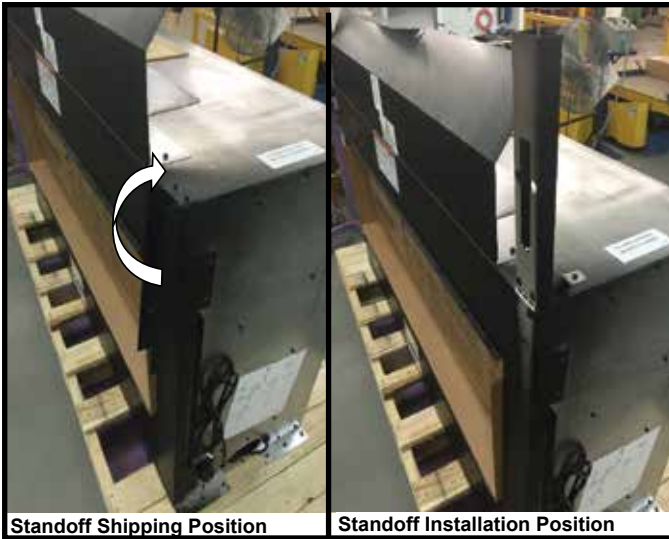

Figure 6.1 Standoffs Shown in Vertical Position
1. Rotate the four (4) top standoffs up into vertical position. Push the standoff support tab on each standoff toward the center of the appliance and fasten it in place using the supplied screw and pilot hole. See Figure 6.1.